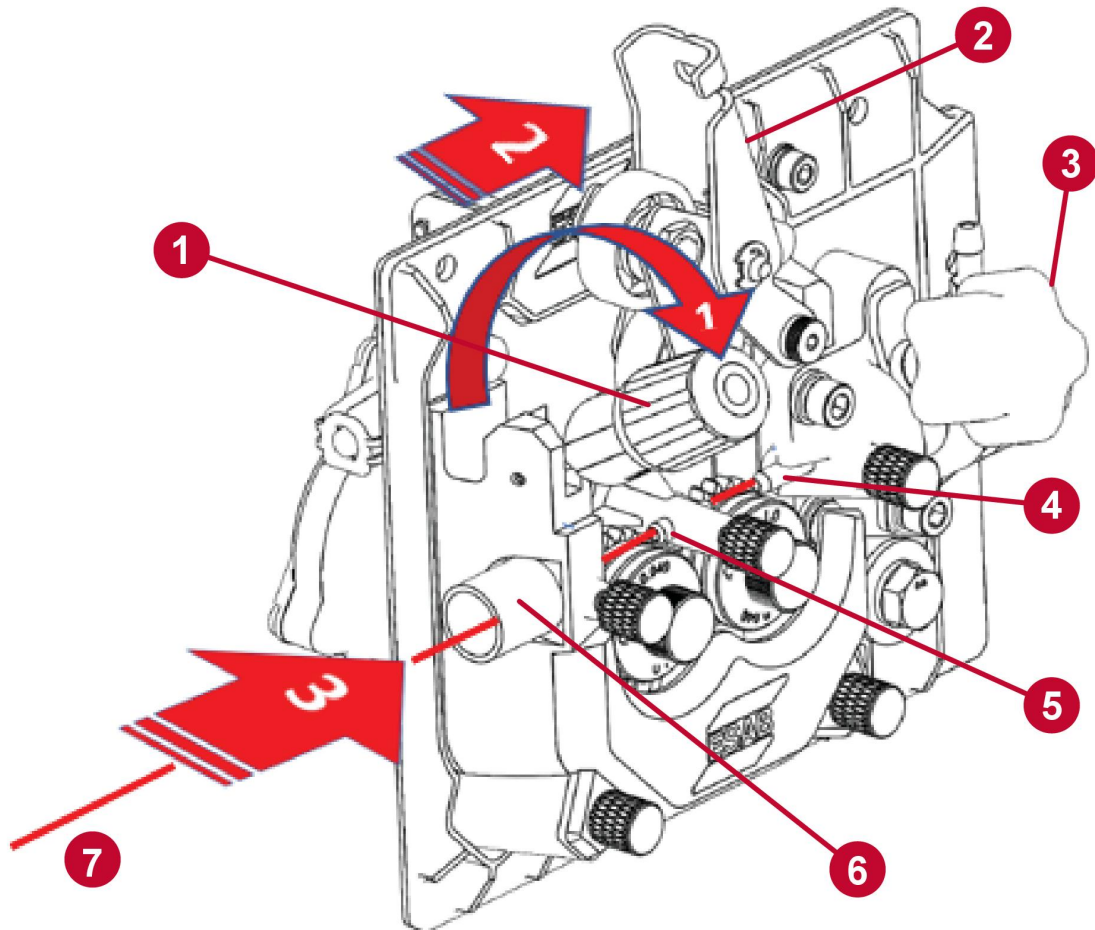

Figure 14. Wire-feed mechanism
4. Release the tensioning arm by pulling the tension knob up out of its detent and rotating it toward you, (see 1 in Figure 14). Since the wire-feed pressure must be disturbed to release this arm, the tension on the rollers will have to be re-adjusted in a later step. The tensioning arm (2) is spring-loaded. It will pop-up when the tension knob in the previous step is rotated out-of-the-way.